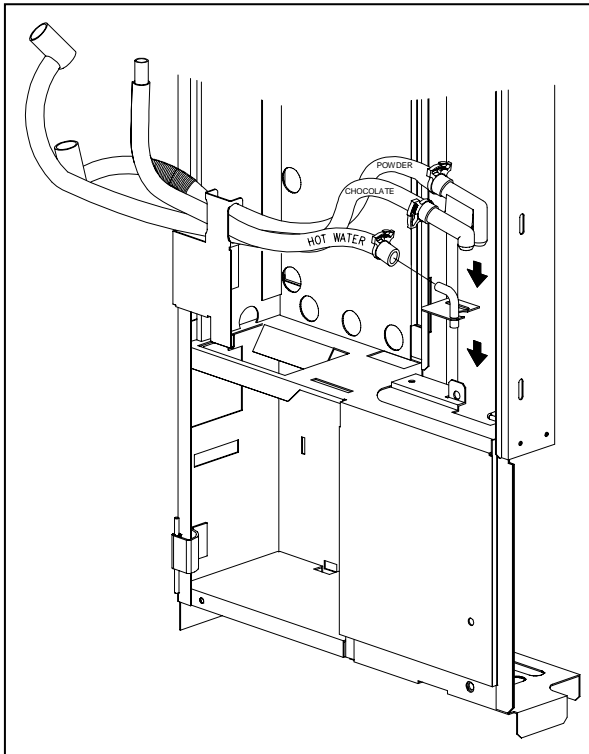

Figure 6 - Install the new door tubes assembly.
6. Remove the existing door tube assembly and replace it with the new one, including a new outlet spout weld assembly (figure 6 and 6a).